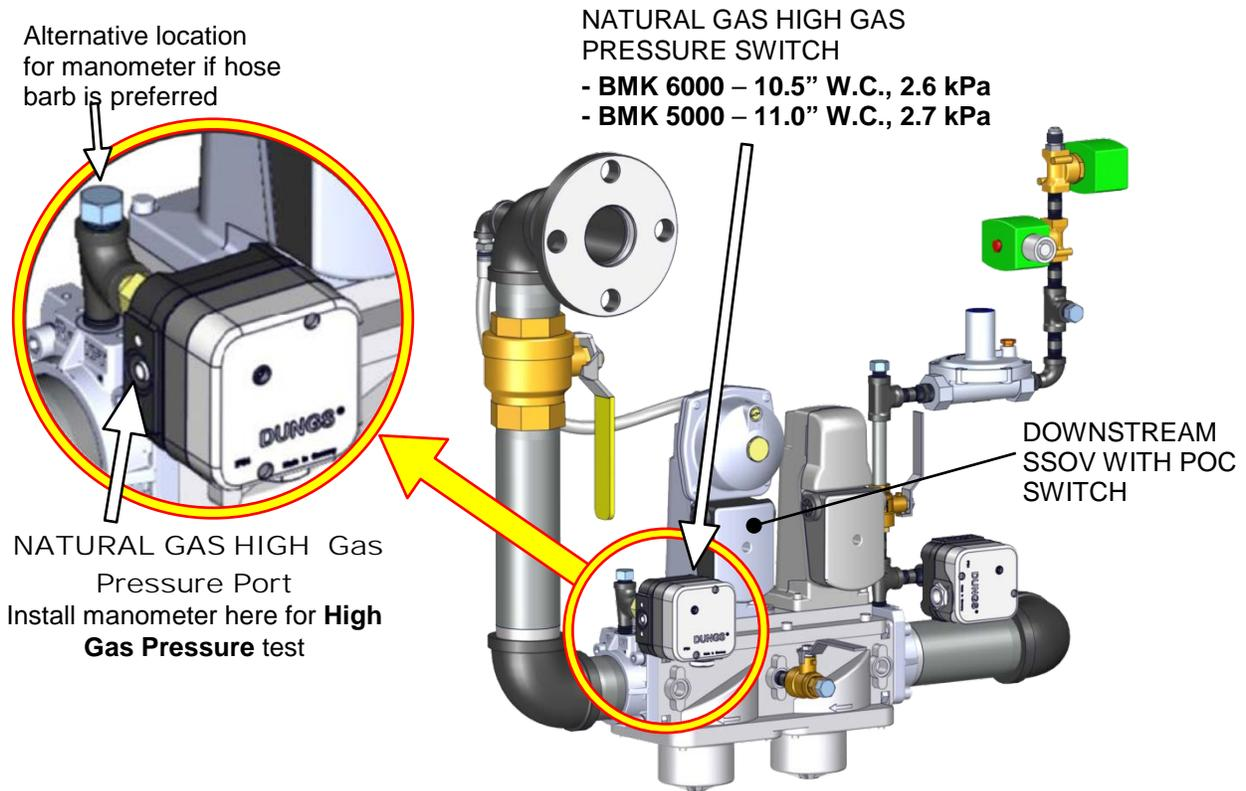

Figure 5-3: High Gas Pressure Switch Locations & Test Ports
2. Locate the port on the top of the **NATURAL GAS High Gas Pressure Switch** (see Figure 5-3) and loosen the screw inside a few turns to open it. Do not remove this screw completely. Alternatively, you can remove the 1/4 inch plug shown in the top half of Figure 5-3 and install a hose barb fitting in that location.